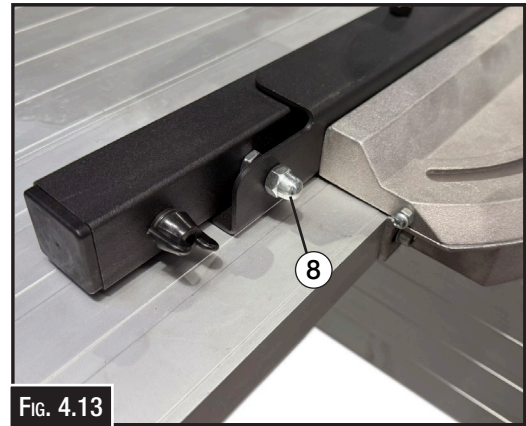

FIG. 4.13
**L. Workpiece Stop Angle Correction (Fig. 4.13)**
3. Swing back the stop tube a short way and set the adjusting nut (8) by hand.